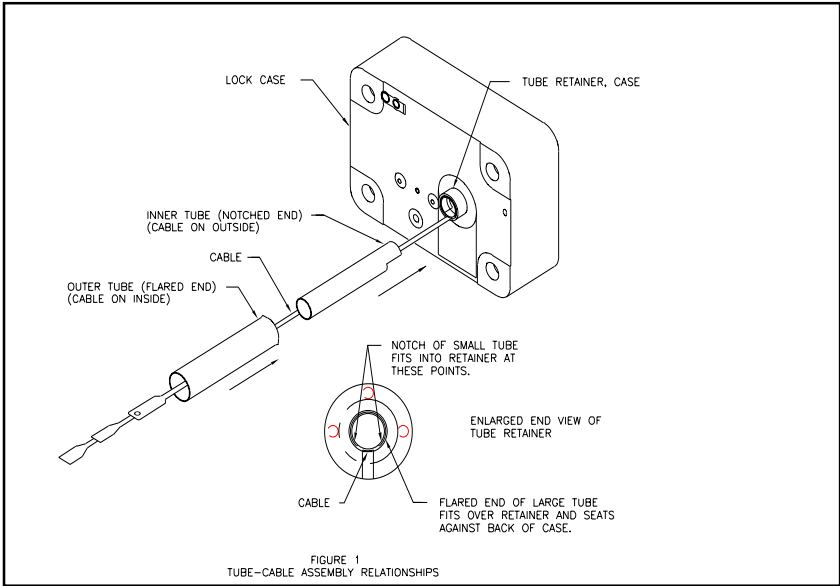

Figure 4- Tube-Cable Assembly Relationships
3. Feed the cables through the outer, larger, tube starting from the flared end of the tube. Seat the tube into position on the tube retainer on the back of the lock case assembly. (See Figure 4.) Be careful to keep the cables pulled taut while seating the tube to avoid pinching damage to them.
- Feed the cables through the outer tube from the flared end. Seat the tube into position on the tube retainer on the back of the lock case assembly. (See Figure 4 on page 4.) Be careful to keep the cables pulled taut while seating the tube to avoid pinching and damaging them.